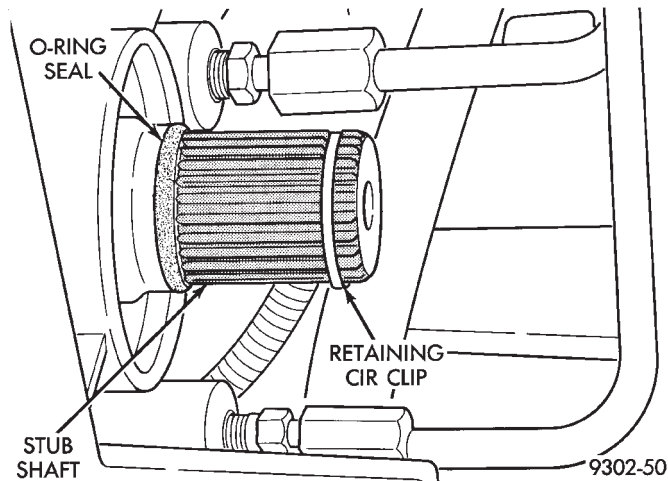

Fig. 9 Tripod Joint Retaining Circlip And O-Ring Seal
CAUTION: The inboard tripod joint retaining circlip and O-Ring seal (Fig. 9) on the transaxle stub shaft are not re-usable. Whenever the inboard tripod joint is removed from the stub shaft, the retaining circlip and O-Ring seal **MUST BE REPLACED**. The retaining circlip and O-Ring seal is included in all service kits requiring removal of the inboard tripod joint from the stub shaft.
(1) Replace O-Ring seal and tripod joint retaining circlip (Fig. 9) on the transaxle stub shaft.